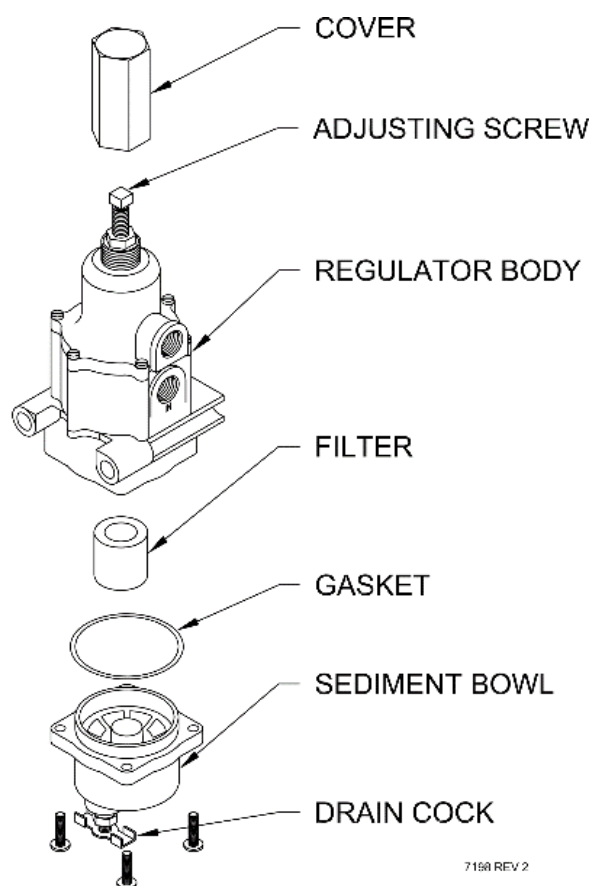

Figure 29 – Pressure Regulator
9. Remove the filter and gasket. See Figure 29 on the next page.
1. Install the filter and gasket onto the sediment bowl. See Figure 29.